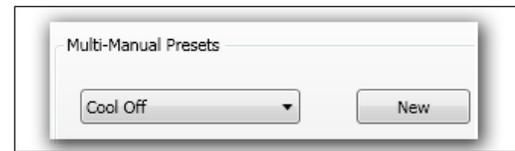

Figure 2.33
- The manual program name will be entered in the **Multi-Manual Presets** drop-down menu (Figure 2.33).